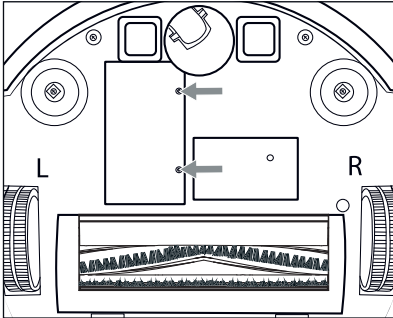

Fig. 16
- 1) Loosen the two screws of the battery compartment cover **26** (see Fig. 16) on the underside of the appliance using a Phillips screwdriver, and remove it from the appliance. Remove the battery compartment cover **26** from the appliance.